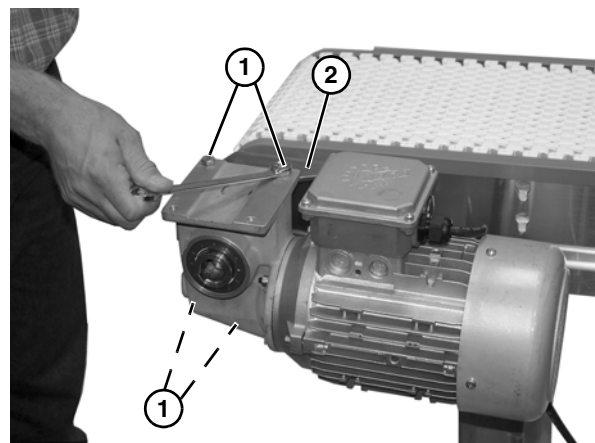

Figure 17
7. Install four screws (**Figure 17, item 1**) to gearmotor assembly and mounting bracket (**Figure 17, item 2**).